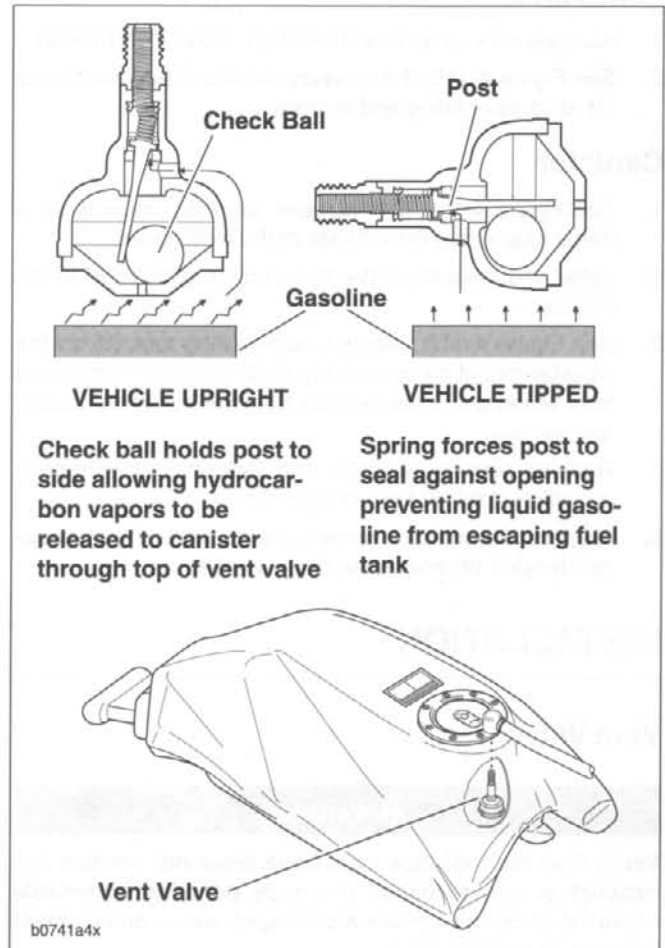

Figure 4-109. Vent Valve Operation
- See Figure 4-109. Hydrocarbon vapors in the fuel tank are directed through the vent valve and stored in the carbon canister. If the vehicle is tipped at an abnormal angle, the vent valve closes to prevent liquid gasoline from leaking out of the fuel tank through the fuel tank vent hose.